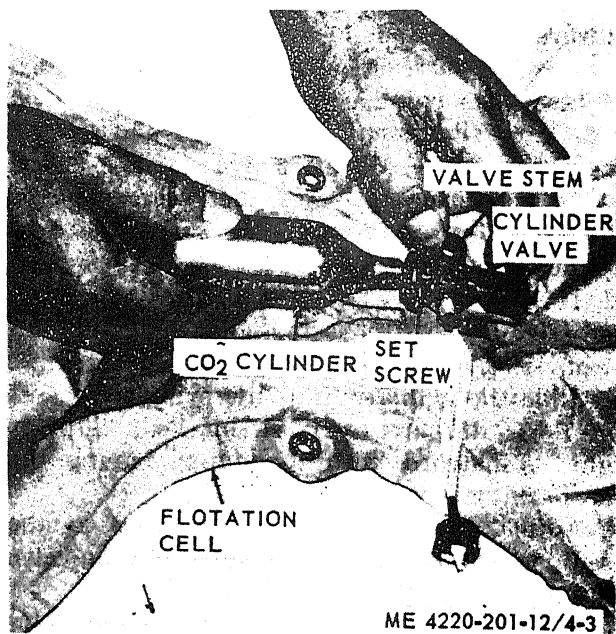

Figure 4-3. Inserting CO₂ cylinder into cylinder valve.
c. Insert the cylinder into the cylinder valve on the deflated flotation cell (fig. 4-3) and tighten firmly by hand. Make sure the valve stem gaskets are serviceable and the valve stem is tight. On life preservers having a set screw, be sure the set screw is tightened.